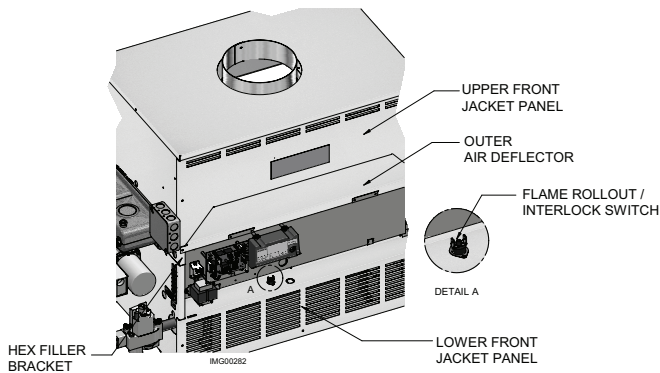

Figure 7-2_Outer Air Deflector and HEX Filler Bracket
- d. Remove the outer air deflector (FIG. 7-2)
- g. Disconnect the wiring from the flame rollout/interlock switch, see FIG. 7-2, page 49.
- q. Remove the heat exchanger (HEX) filler bracket (FIG. 7-2).